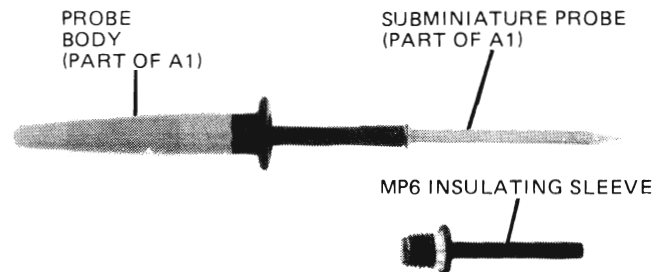

Figure 4. Probe in Subminiature Mode
9. SUBMINIATURE MODE OF OPERATION. Size of the probe can be further reduced by removing MP6 (turn knurled part counterclockwise), and pulling the probe tip out of the probe body (see figure 4).